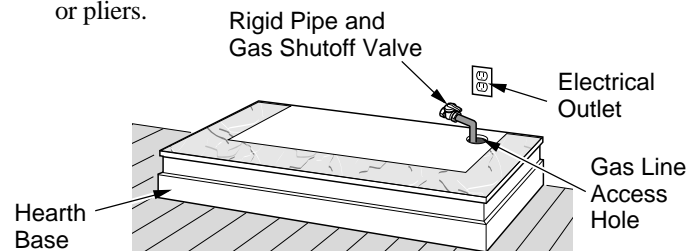

Figure 9 - Placing Hearth Base Accessory Against Wall
- When installing blower, install a properly grounded, 120 volt three-prong electrical outlet at fireplace location if an outlet is not there. If possible, locate outlet so cabinet mantel will cover it when installed (see Figure 9).
- Place hearth base accessory against wall at installation location. Cut an access hole in hearth top to run gas line to fireplace (see Figure 9). Make sure to locate access hole so cabinet mantel will cover it when installed. **Note:** You can secure base to floor using wood screws. Countersink screw heads and putty over.